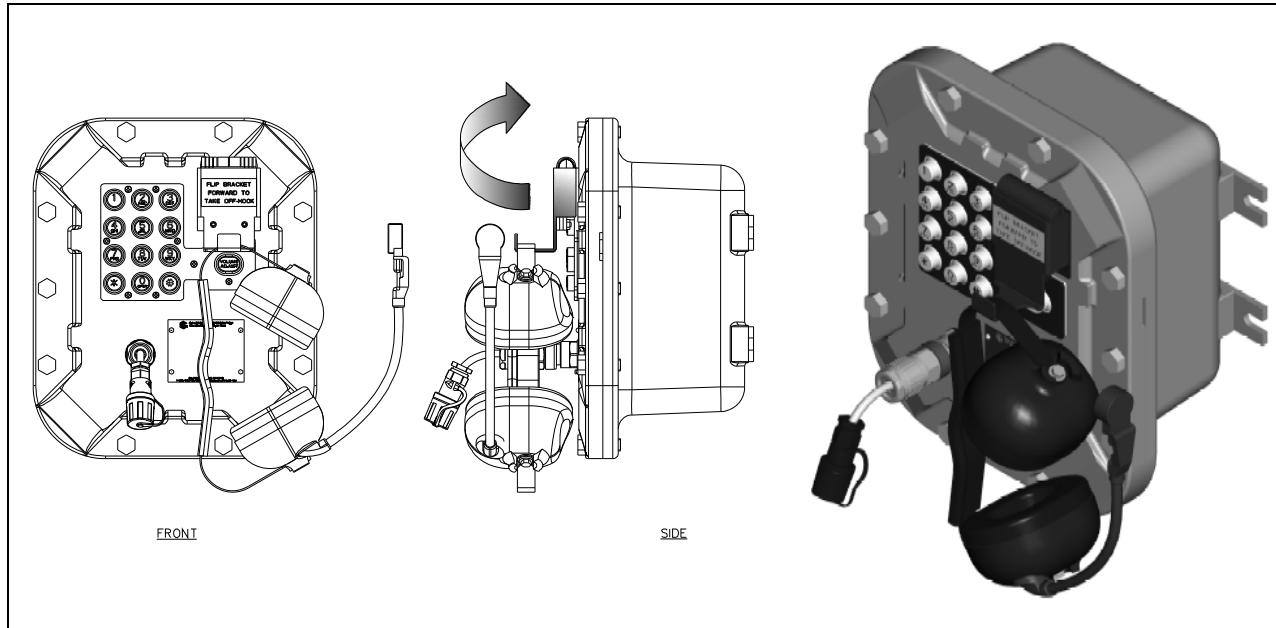

Figure 11. Models 352-103 and 352-104
2. To place a call, remove the headset from the headset activation bracket and flip the headset bracket forward to its preset position (see Figure 11).